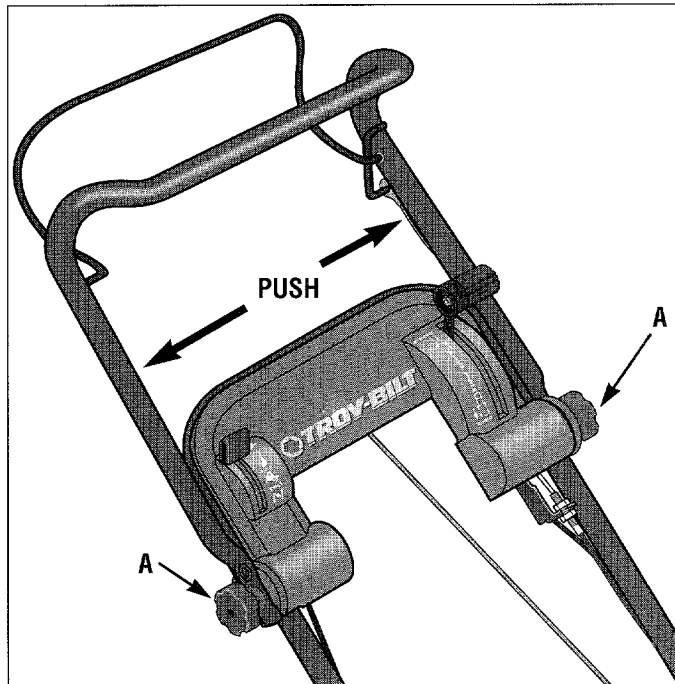

Figure 4-2: Handlebar Position Adjustment Knobs (Model 34322 shown).
The handlebars are adjusted by loosening the upper adjustment knobs (see A, Figure 4-2).
- A. Loosen the upper adjustment knobs (A) until the adjustment teeth are disengaged.
- B. Push outward on the sides of the upper handlebar section as shown in Figure 4-2.